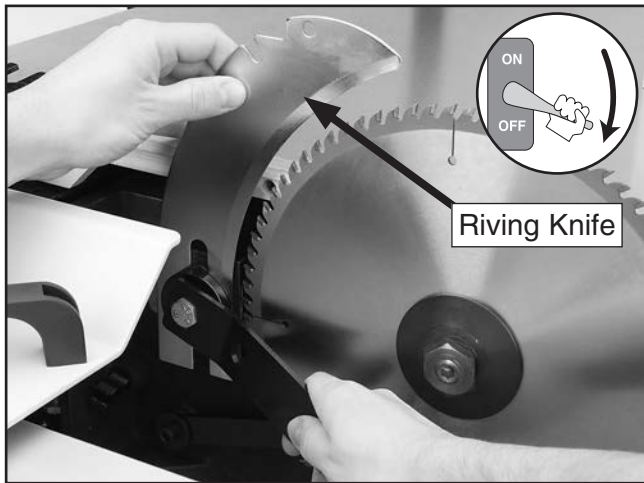

Figure 45. Installing the riving knife.
36. Loosen the riving knife center bolt, slide the riving knife over the bolt as shown in **Figure 45**, and slightly tighten.